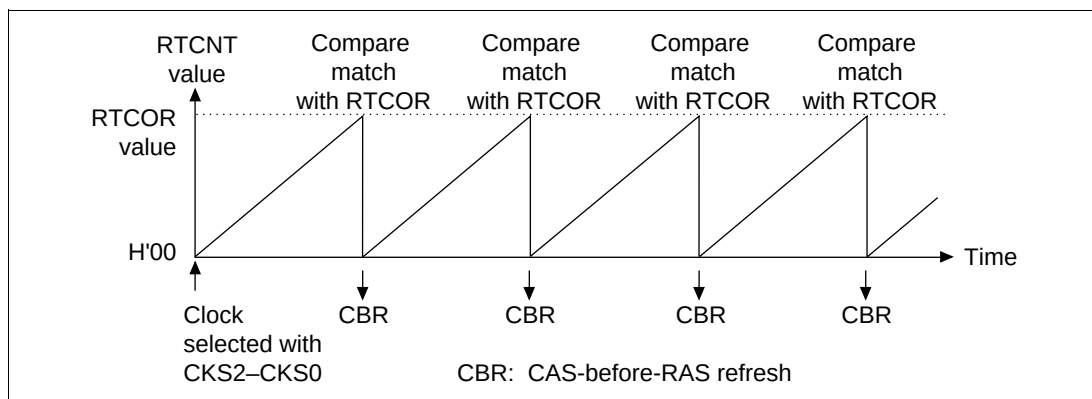
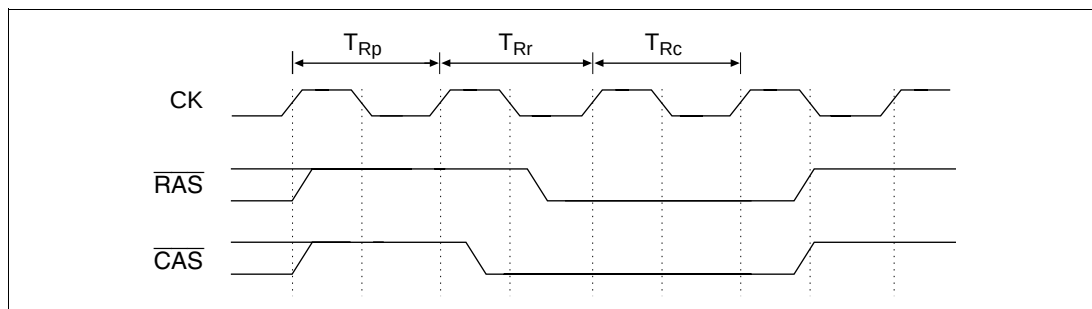

**Figure 8.29 Refresh Timer Counter (RTCNT) Operation**
**Figure 8.30 Output Timing for CAS-Before-RAS Refresh Signal**
When the RW1 bit in WCR1 is set to 1 and the read cycle is set to long pitch, the number of wait states selected by the RLW1 and RLW0 bits in RCR will be inserted into the CBR refresh cycle, regardless of the status of the  $\overline{\text{WAIT}}$  signal. Figure 8.29 shows RTCNT operation and figure 8.30 shows the timing of the CBR refresh. For details on timing, see sections 20.1.3 (3) and 20.2.3 (3), Bus Timing.